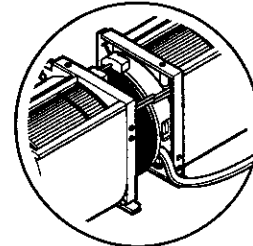

Figure 13
4. Pull out the blower wire from wire clip, and put blower wire in another clip. See figure 13.